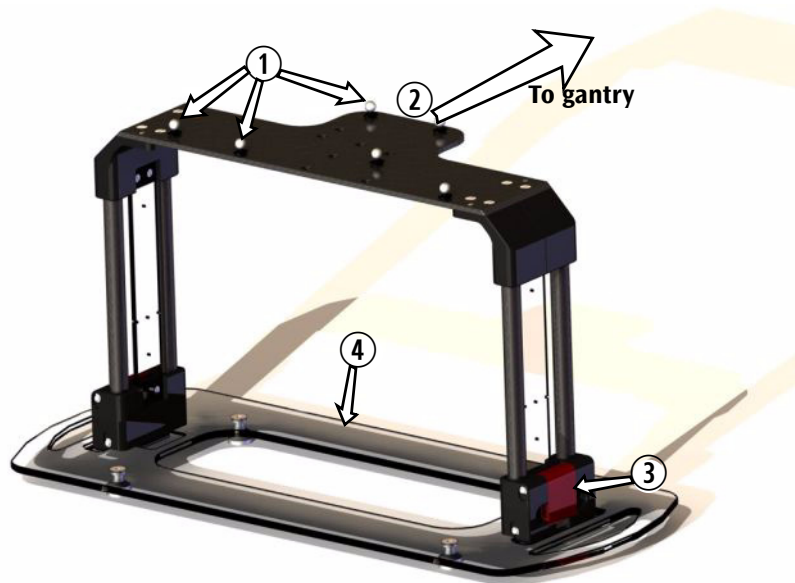

Figure 112 The iGUIDE Reference Frame
The reference frame is installed on the robotic couchtop. The camera finds the accurate patient position tracking the six optical markers on the top side of the reference frame. The optical markers are arranged in a specified geometric pattern, see ① in Figure 112.
Note that the “nose” of the reference frame must be pointed to the gantry (see Figure 112 on page 140).